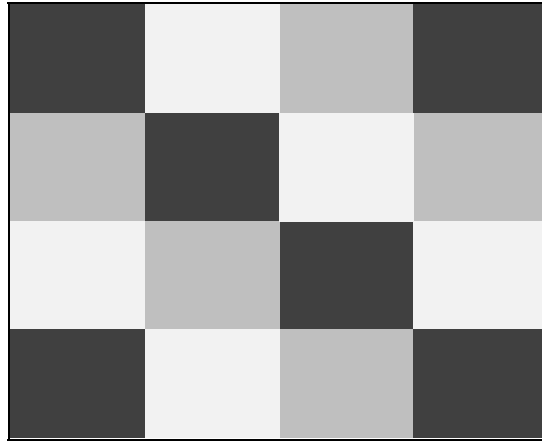

Figure 5-2. Display Test Pattern
2. Press **F3** **CALIBRATE**. The display will show a dark test pattern, see Figure 5-2